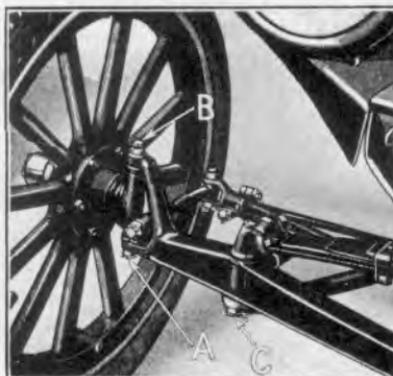

Fig. 380
- 724** Raise front end of car with lifting hooks. Run off the two spindle bolt nuts (See "A" Fig. 380), and run out spindle body bolts "B".
- 728** Insert spindle body bolt through axle and spindle (See "B" Fig. 380); run down the threaded end of the bolt as far as possible and install nuts on ends of bolts. Draw nuts down tightly and lock with cotter keys (See "A" Fig. 380). It is very important that the spindle body bolt nuts be drawn down tightly.